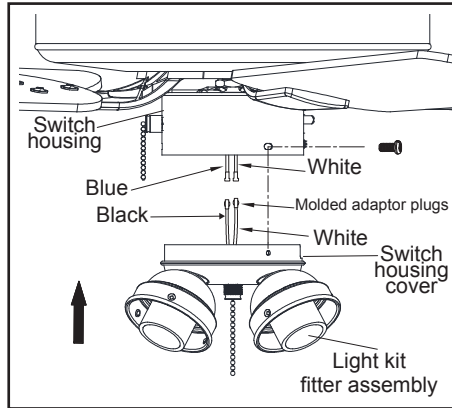

Figure 13
1. Remove and retain the three mounting screws from the switch housing cover of the light kit fitter assembly (Figure 13).
2. Locate the blue and white wires inside the switch housing and switch housing cover of the light kit fitter assembly. (Figure 13)
4. Connect the white wire from the ceiling fan switch cup to the white wire from the light kit by connecting the molded plugs together. (Figure 13)